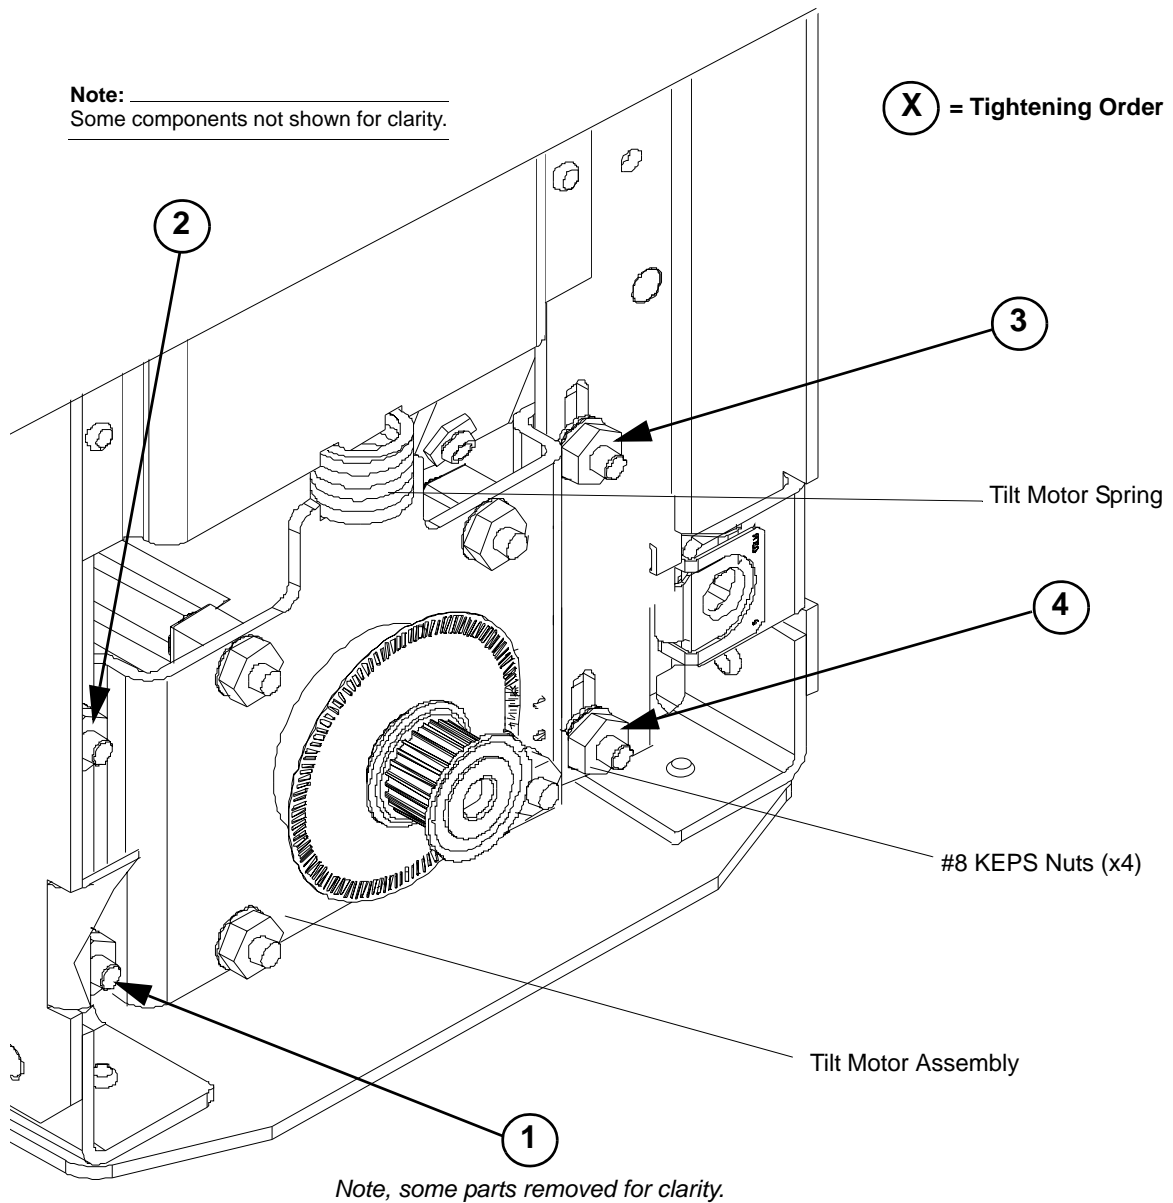

Figure 2-17: Tilt Motor Assembly Installation
Step 12. As shown in Figure 2-17, tighten motor in order shown (in an 8, 10, 2, 4 o'clock pattern with the spring being 12 noon).